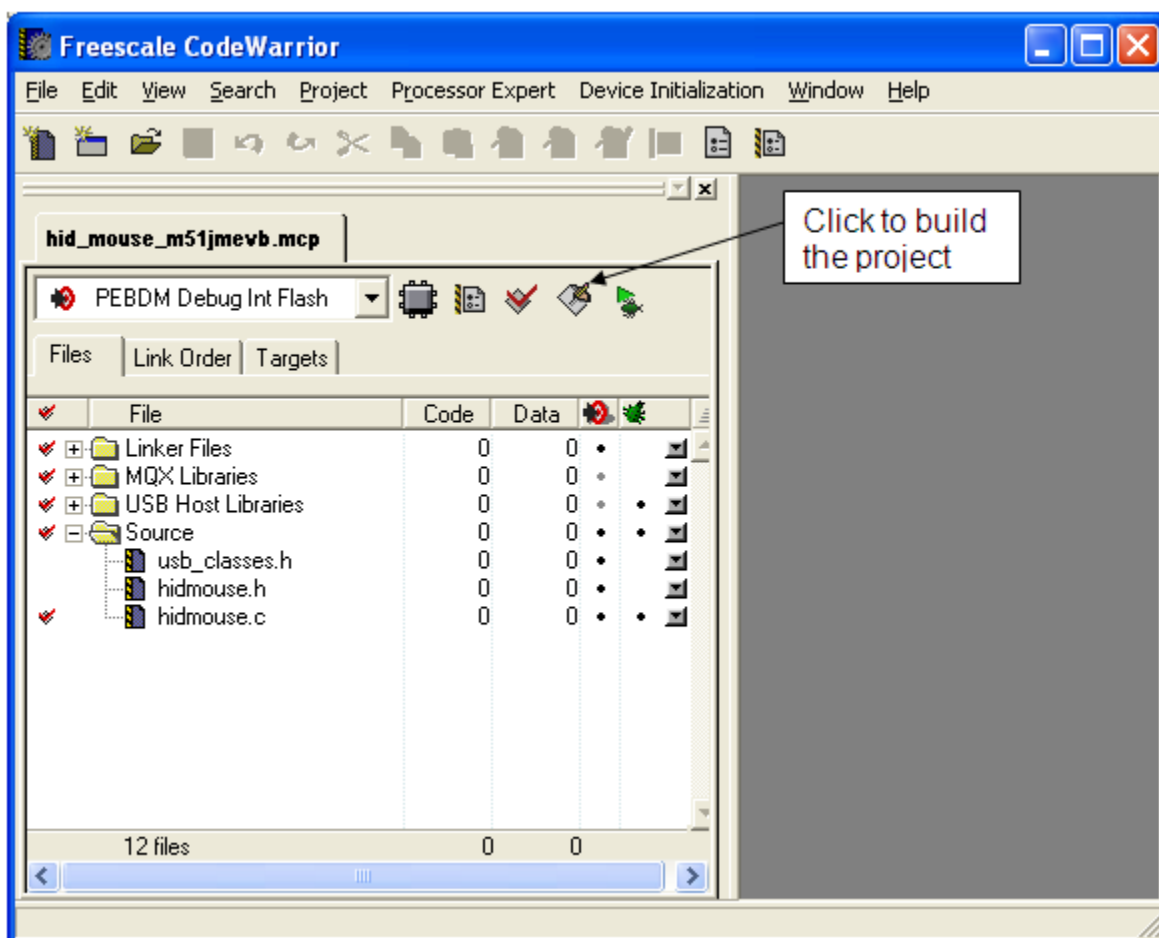

Figure A-3. Build Project
2. After you have opened the project, the following windows appears. To build the project, click the button as shown in Figure A-3.